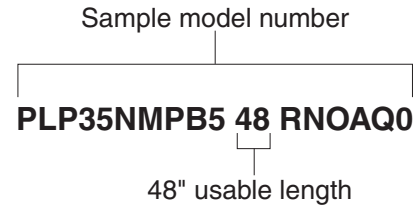
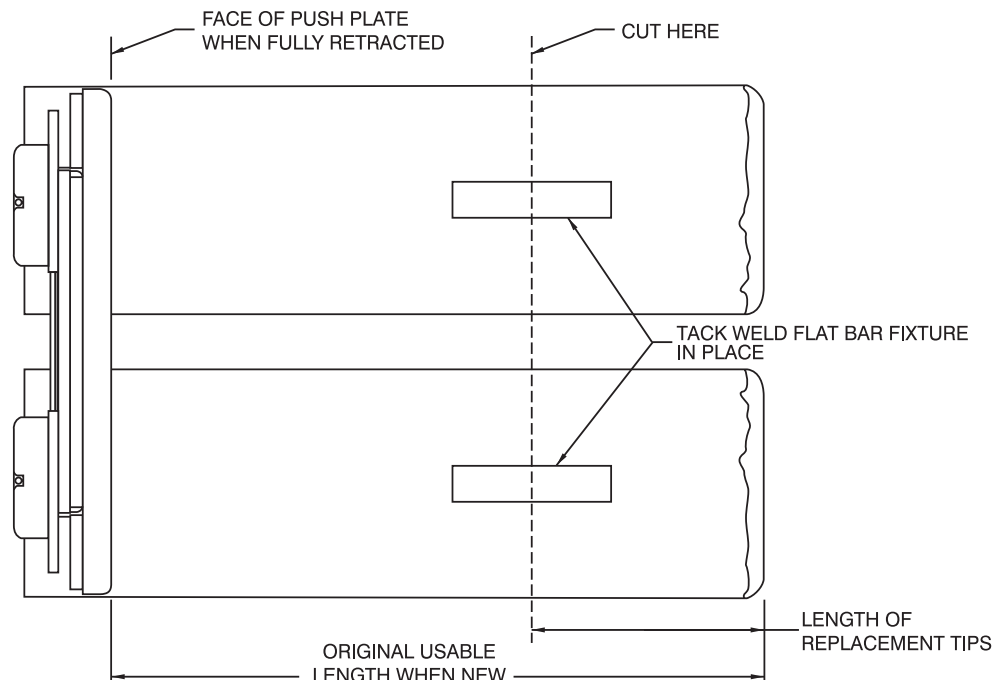

Figure 1-1
Figure 1-3
- 1) To determine where to cut off platen tips, measure from the face of the fully-retracted push plate as shown in Figure 1-3. Burn off old tips perpendicular to platen centerline at original usable length of platen, as measured from push plate, less length of replacement tips. Refer to attachment model number for the platen's original usable length, as shown in Figure 1-1.